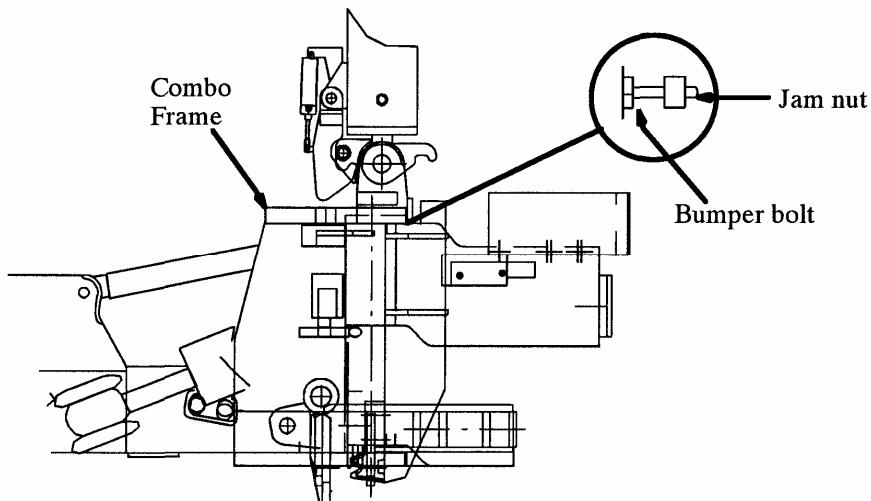

Figure 4-48
3. Visually observe the distance the hook inserts stop from the rail. Ideally there should be a 1/8 inch (3 mm) gap between the hook insert and the web of the rail. This will vary slightly due to variations in the track gauge. Refer to Figure 4-48.